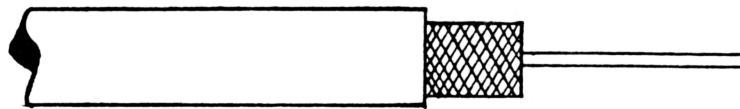
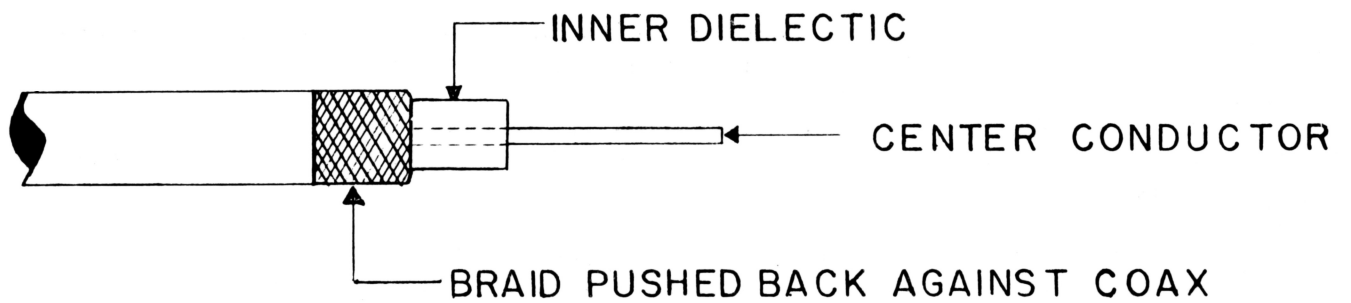

Figure 2
Figure 3
- 2) Push the braided shield back as shown in figure 2 and figure 3.